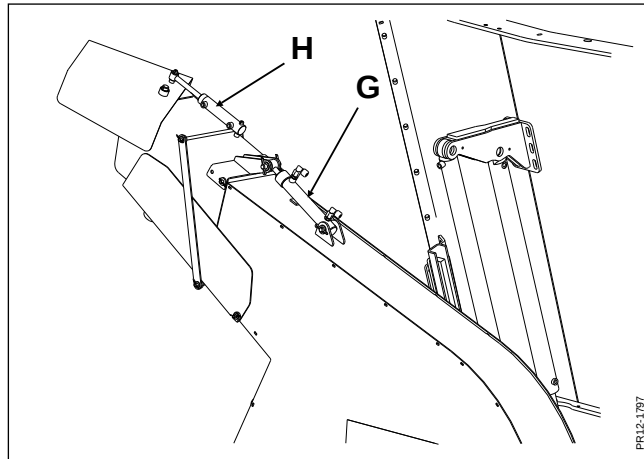

Fig. 2-7
- Fig. 2-7** 3) Tuden indstilles via joysticket **(5)**.